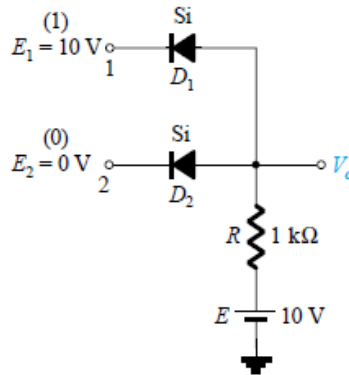

Figure 3
- Note the substitution of the short-circuit equivalent for the ideal diode in **Fig 3**, and the fact that the voltage across the resistor is 0 V because the diode current is 0 mA. The result is $v_i - V = 0$ or $v_i = V$ is the applied (transition) voltage.